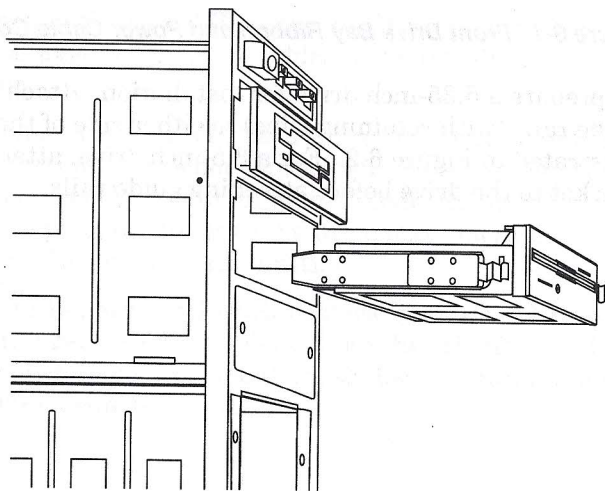
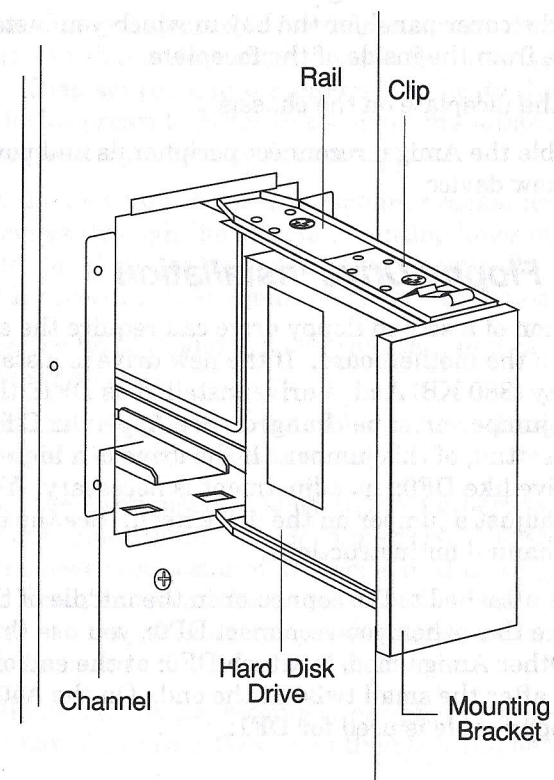

Figure 6-3. Installing a Device in a Horizontal Bay
Figure 6-4. Installing a Device in a Vertical Bay
7. Slide the drive into the bay as illustrated in Figure 6-3 or Figure 6-4 until the retaining clips on the rails snap into place.